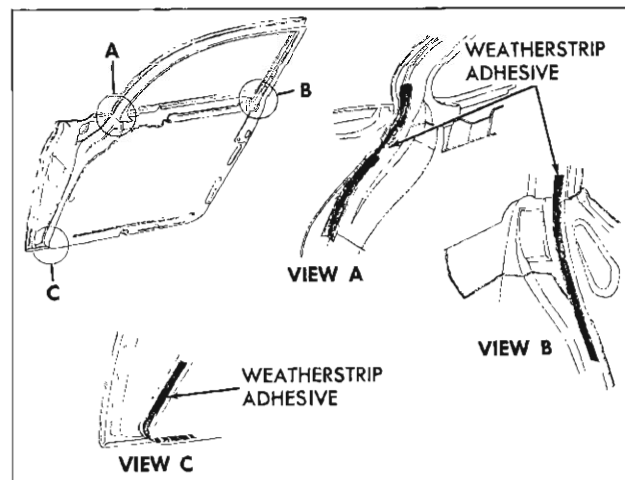

Fig. 21—Front Door Weatherstrip Adhesive Application
1. Carefully break cement bond securing weatherstrip to door. If necessary, a flat-bladed tool, such as a putty knife, can be used to help break cement bond (fig. 21).
2. Clean off old cement from door to insure a clean cementing surface. Apply a bead of an approved weatherstrip adhesive to hinge and lock pillar facing of door. Begin adhesive application slightly above belt line and continue down door for approximately seven to nine inches. If necessary, weatherstrip adhesive can also be applied to lower forward corner of door (fig. 21).